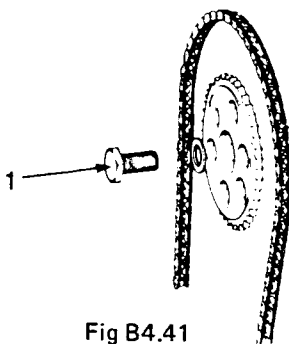

Fig B4.41
- (3) Refer to Fig B4.41. Remove the fixing (1) for the camshaft sprocket and remove the sprocket.